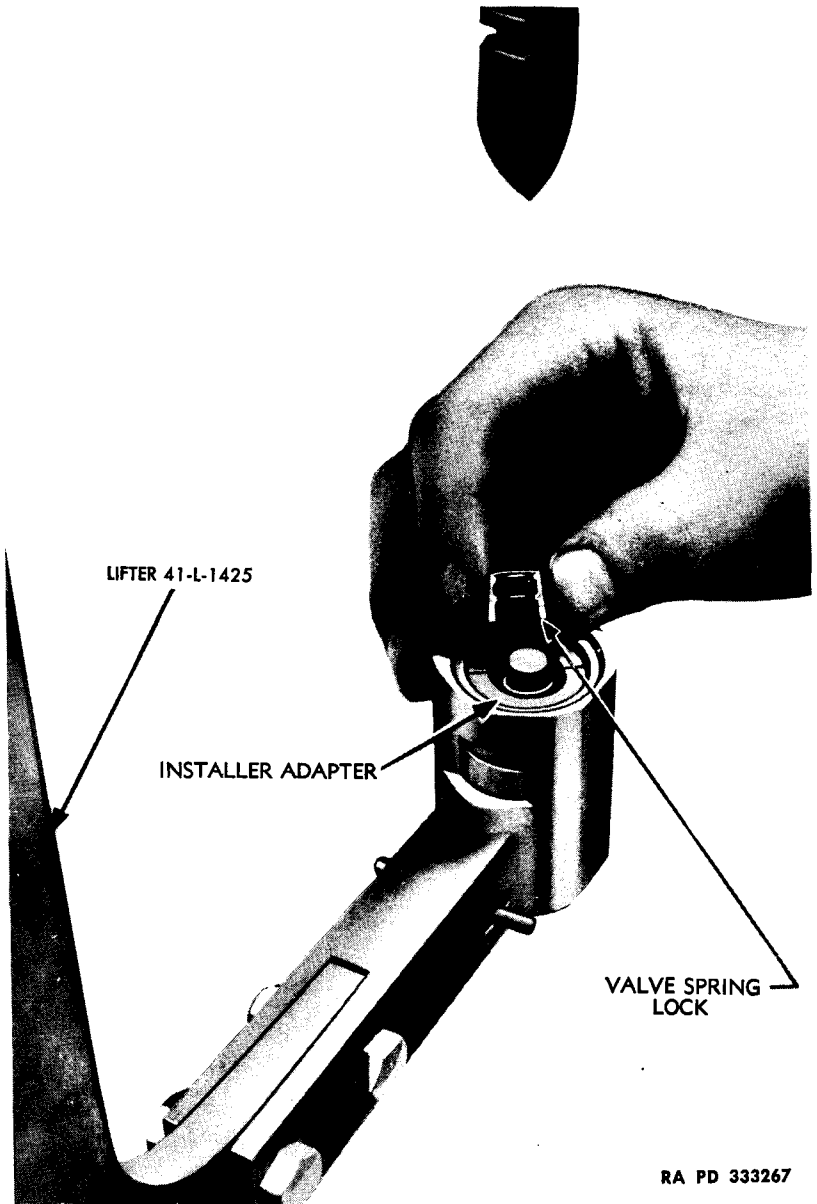

Figure 45 — Inserting Valve Stem Locks
(2) **INSTALL VALVE LOCKS IN VALVE REPLACER.** Install valve stem lock installer adapter on valve replacer. Position two valve stem locks in installer adapter (fig. 45).